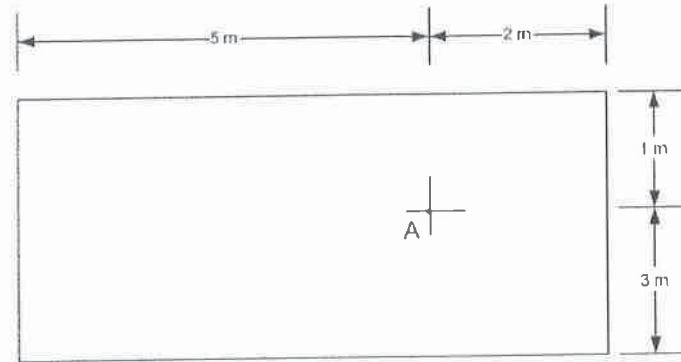

Figure 2
- (ii) The foundation shown in **Figure 2** is loaded to an intensity of 100 kPa . Determine the increase in vertical stress that occurs at a depth of 2 m below point *A*. Use any two methods and compare the results.